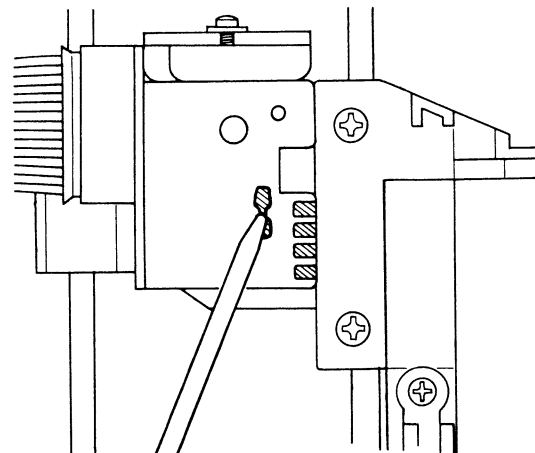

Fig. 2.3
- (6) Mount the new Pickup by reversing the disassembly procedure.
- (7) Open the short-terminals after connecting the connectors. (See Fig. 2.3.)